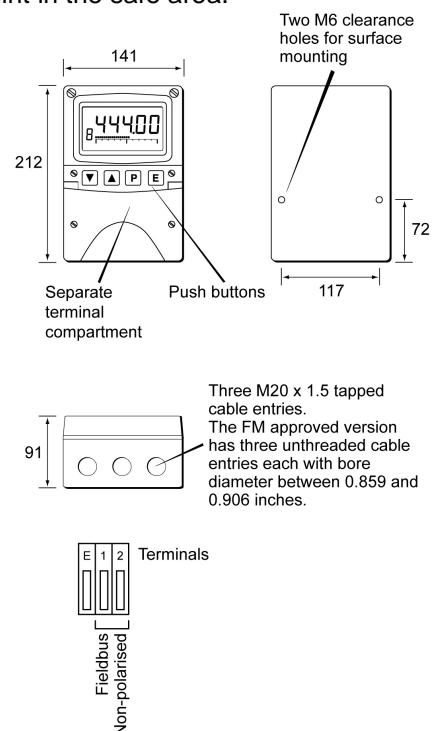

Fig 3 Dimensions and terminal connections
- Connect the field wiring to the terminals as shown in Fig 3.